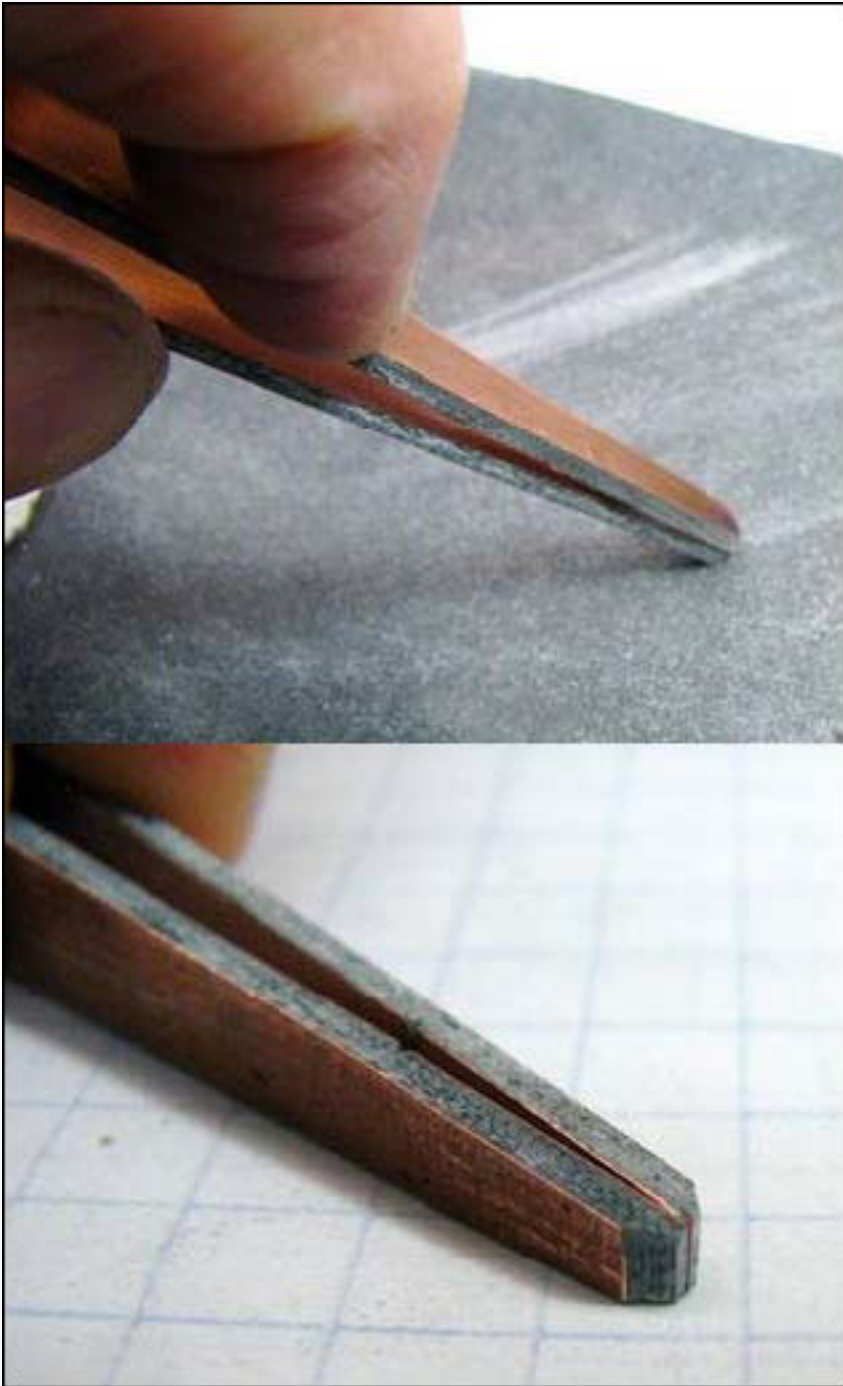

Figure 6. Carefully sharpen the points on emery cloth and smooth the cut sides.
5. Squeeze the tweezers' ends together, and rub the tip on some emery cloth over a flat surface to grind the ends to an even and tapered point. It should only take a bit of rubbing before the point has no trouble picking up a 0402 resistor. You can also use emery cloth to smooth the cut sides of the blades as well (**Figure 6**). A belt sander can be used for this, but use a very light touch because powered sanders remove a lot of material in a hurry.